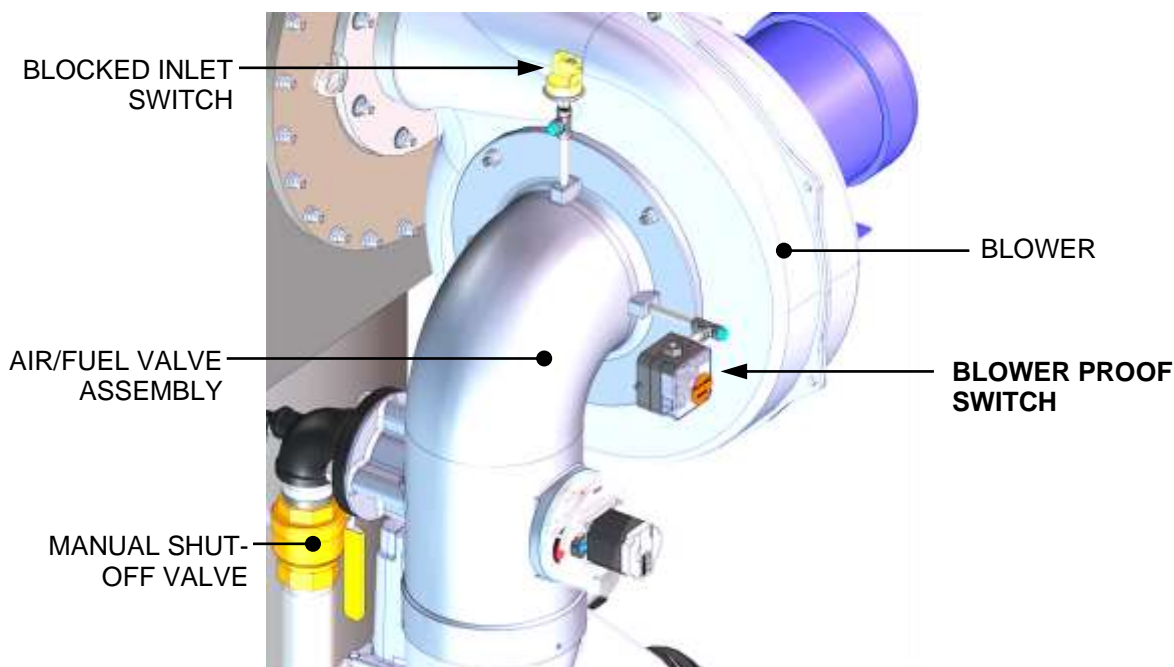

Figure 3-3: Blower Proof Switch
4. Next, the blower proof switch on the Air/Fuel Valve (Figure 3-3) closes. The display will show **PURGING** and indicate the elapsed time of the purge cycle in seconds.